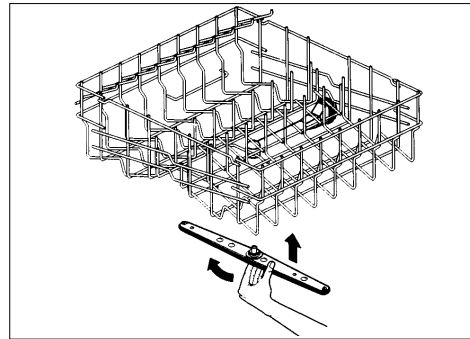

fig. 11
- Take out the upper spray arm by pulling it - with a turning movement - vertically downwards (see fig. 11).